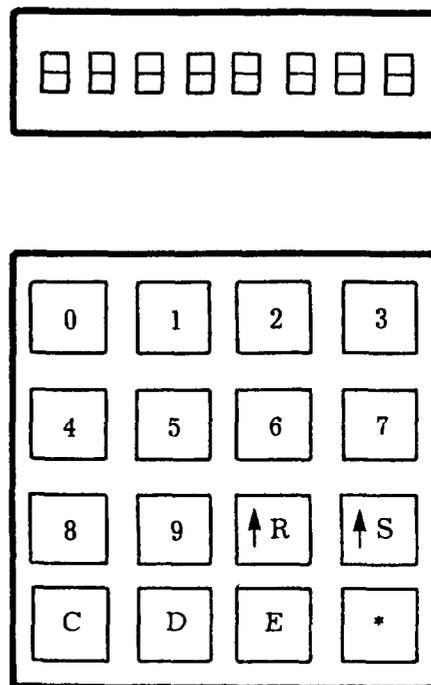

Figure III-5—Memory Window Keypad and LED Display
10.01 Most operation and test functions on the Traffic Recorder can also be initiated and displayed on the Memory Window. As shown in Figure III-5, the unit contains a 16-button keypad for initiating commands, and an eight-digit LED display for viewing the personality map data, active and passive traffic data, and individual input lead status. The following paragraphs describe the various command capabilities and displays available using the Memory Window.